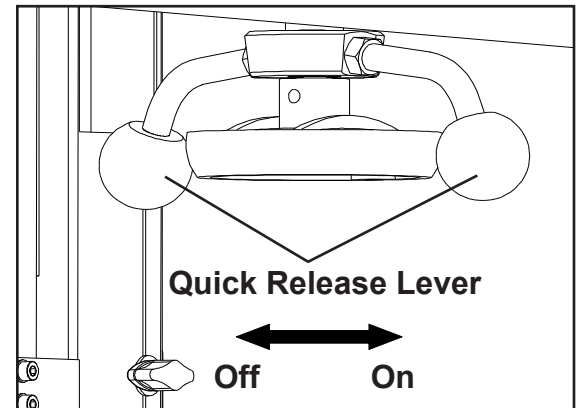
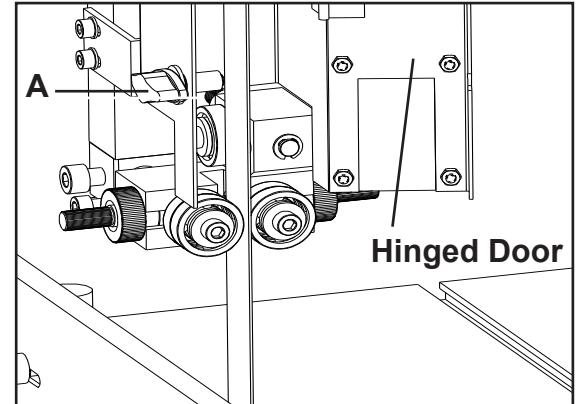
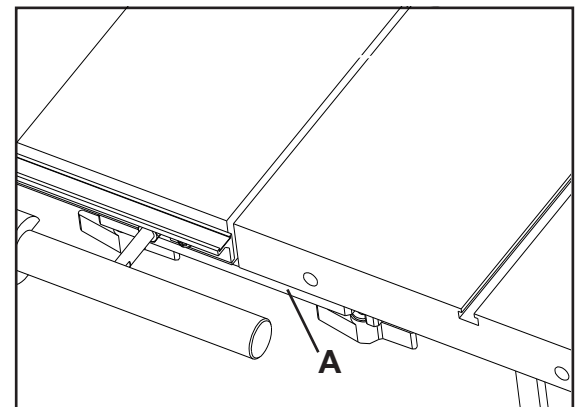

Figure 14
Figure 15
Figure 16
- b) Release the blade tension by moving the quick release lever (Fig.14) from right to left. Open the hinged door on the blade guard by loosening the wing screw (A-Fig.15). Loosen then open the table leveling bar (A-Fig.16).
- c) Remove the saw blade by feeding it through the slot in the table (B-Fig.16), upper and lower blade guides and the slot in the spine of the machine. Be careful not to cut yourself. Wear gloves for protection.
- f) Re-tension the new blade by moving the quick release lever (Fig.14) left to right and check the blade tracking. With your hand, slowly spin the upper wheel clockwise three times. The blade should run in the center of both wheels. Refer to “Tracking the Saw Blade” on the previous page for more details.
- h) Close the hinged door on the blade guard and tighten the wing screw (A-Fig.15). Close the table leveling bar and tighten (A-Fig.16).
- i) Close and lock both the wheel doors (A-Fig.14) before reconnecting the power supply.